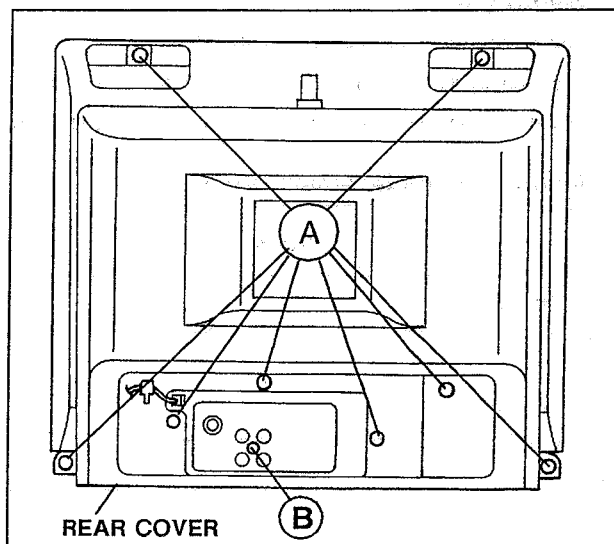
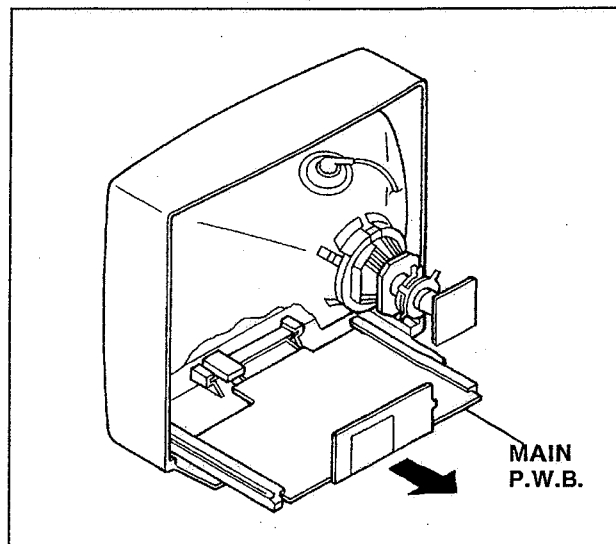
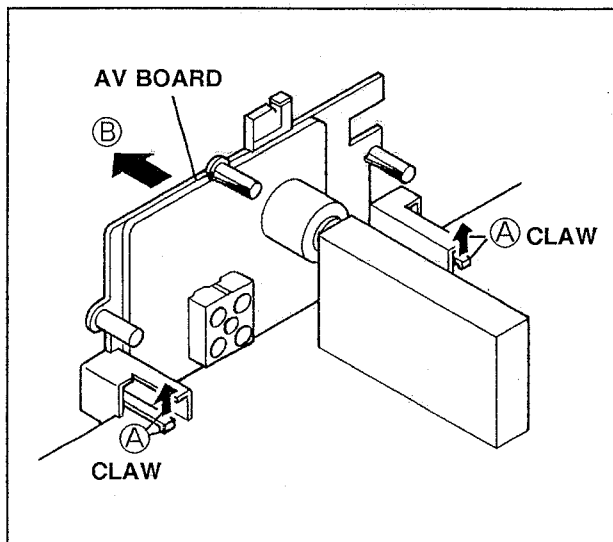

Fig. 1
Fig. 2
Fig. 3
2. Remove the eight screws marked (A) as shown in Fig. 1.
1. Withdraw the MAIN PW board backward along the rail.(Fig. 2)
2. Remove the one screw marked (B) as shown in Fig.1.
3. Remove the claws marked (A) by widening slightly in the direction of arrow as shown in Fig.3.
4. Remove the AV BOARD in the direction of arrow marked (B) as shown in Fig.3.
(1) Power off Switch off the power and disconnect the power cord from the outlet.
(2) Replace the memory IC. Initial value must be entered into the new IC.
(3) Power on Connect the power cord to the outlet and switch on the power.
(4) System constant check and setting 1) Simultaneously press the DISPLAY key and PICTURE MODE key of the remote control unit. 2) The SERVICE MENU screen of Fig. 1 is displayed. 3) While the SERVICE MENU is displayed, again simultaneously press the DISPLAY and PICTURE MODE keys to display the Fig. 2 SYSTEM CONSTANT screen. 4) Refer to the SYSTEM CONSTANT table-1 and check the setting items. Where these differ, select the setting item with the PICTURE ADJUST CENTER key and adjust the setting with the PICTURE ADJUST + / - keys. [ABL SETTING] 5) Press the PICTURE ADJUST + / - keys to adjust each item of ABL/REF/STEP in the ABL settings as shown Fig. 3. Then, select the items by the PICTURE ADJUST CENTER key and set the values by the PICTURE ADJUST + / - keys. After setting, press the MUTE key to return to the SYSTEM CONSTANT screen. 6) After adjusting, release the PICTURE ADJUST + / - key to store the setting value. 7) Press the MUTE key twice to return the normal screen.	 <p>Fig. 1</p>  <p>Fig. 2</p>  <p>Fig. 3</p>
(5) Receive channel setting Refer to the OPERATING INSTRUCTIONS and set the receive channels as described.
(6) User settings Check the user setting items according to table-2. Where these do not agree, refer to the OPERATING INSTRUCTIONS and set the items as described.
(7) SERVICE MENU setting Check the items according to Table-3. Where necessary, refer to SERVICE ADJUSTMENTS and set the items as described.